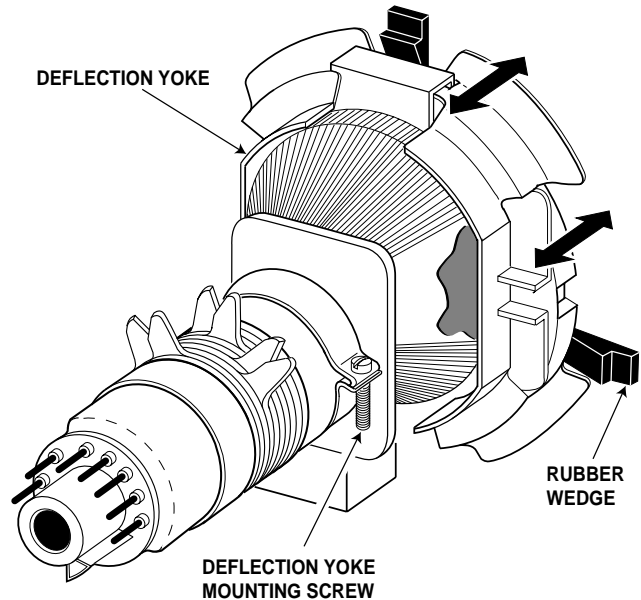

Figure 1. Deflection Yoke Movement
1. When replacing picture tube or deflection yoke, mount deflection yoke and purity-convergence magnets assembly properly. See Figure 1. Position the picture tube facing east or west. Demagnetize the picture tube and receiver using an external degaussing coil. Set receiver to TV Service Menu No. 73 (no vertical sweep) while degaussing.